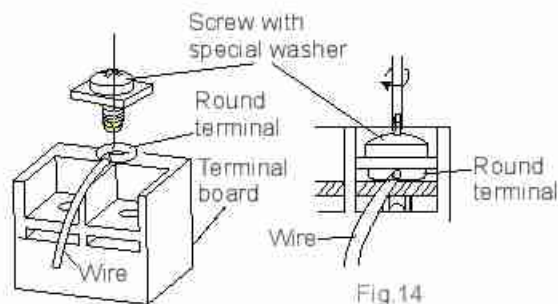

Fig.14
- 4). Position the round terminal wire, and replace and tighten the terminal screw with a screwdriver.(Fig.14)